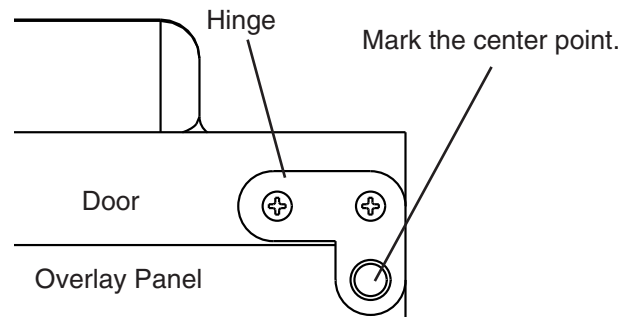

Fig. 12
- 10) Mark the centerpoint of the hinge (C1) and hinge (C2) holes that extend over the overlay panel. See Fig. 12.